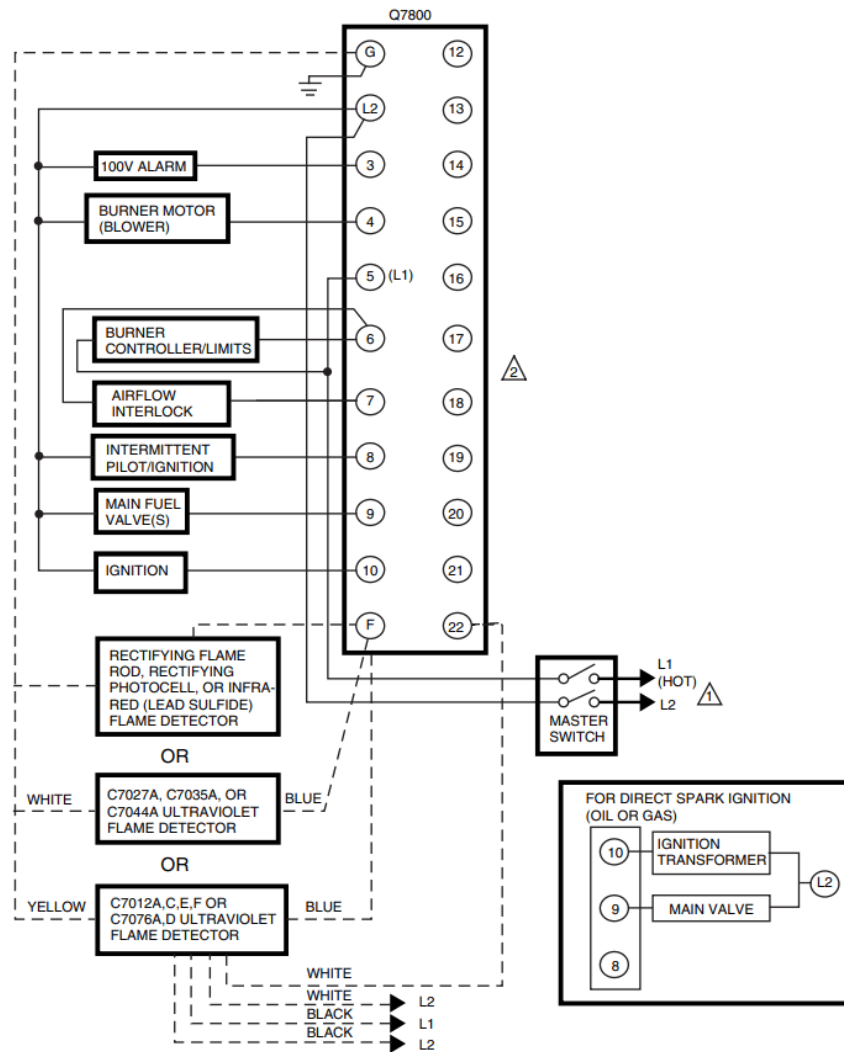

Fig. 7. Wiring the RM7895A.
2. Wiring connections for the EC7895 or RM7895 are unique; therefore, refer to Fig. 7 or 8 for the correct Specifications for proper subbase wiring.
1. a. For proper wiring, refer to Fig. 7 or 8.